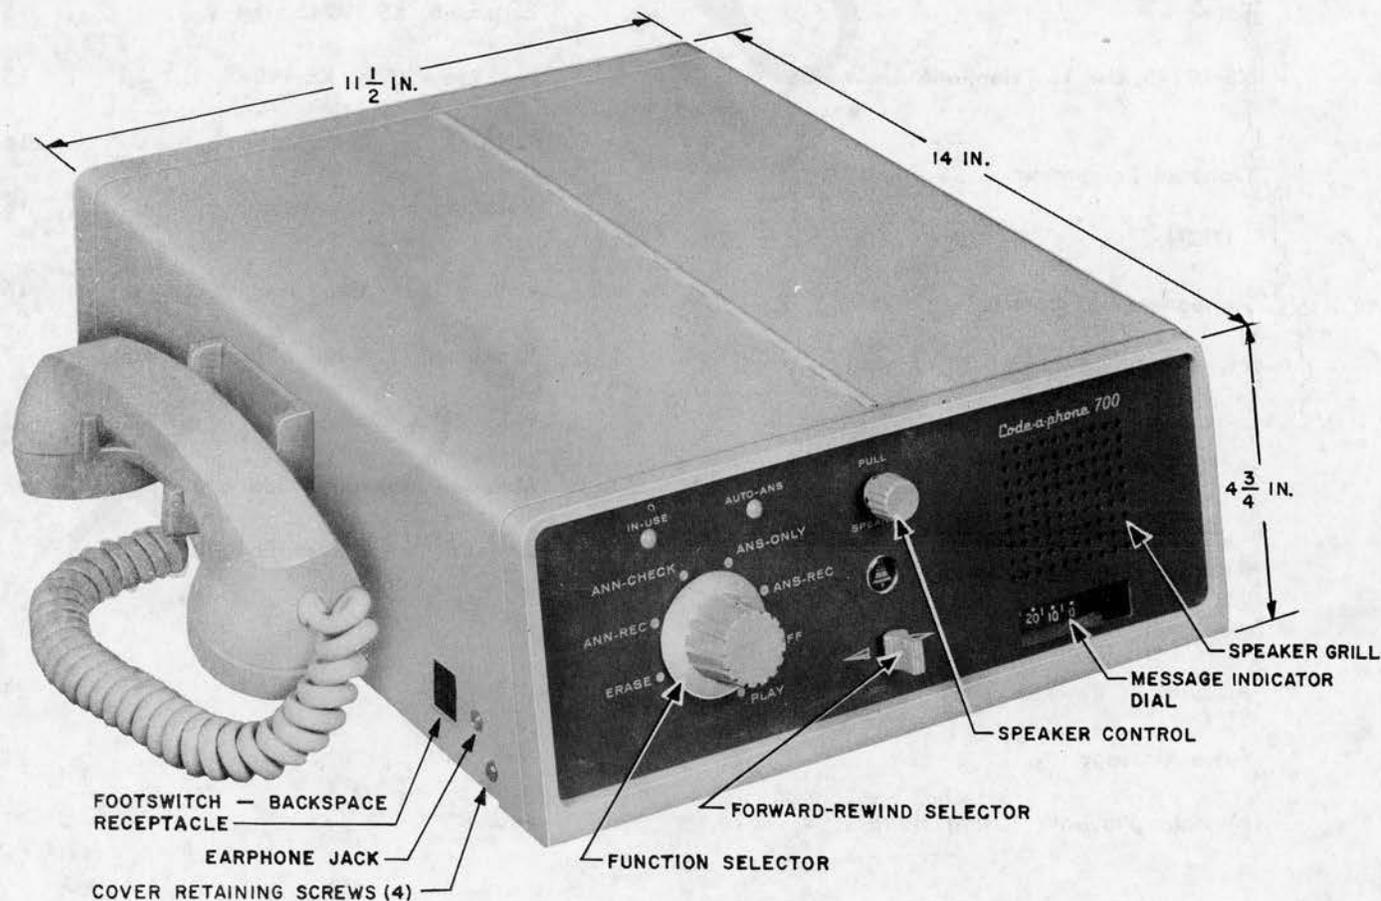
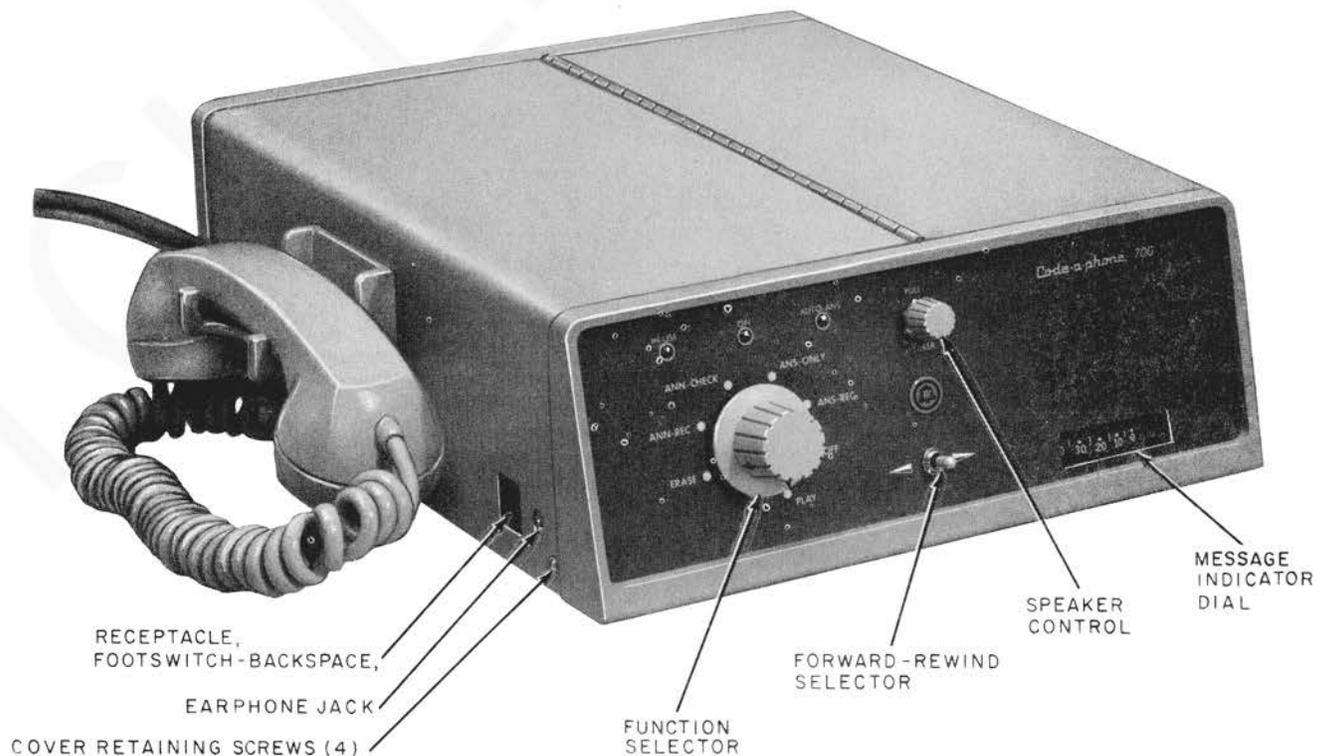

Fig. 1—KS-19245, List 1 Telephone Answering Set
Fig. 2—KS-19245, List 13 Telephone Answering Set
1.01 This section covers identification, installation, operation, and connection information on the KS-19245, List 1 (MD) (Fig. 1) and List 13 (Fig. 2) telephone answering set.
2.01 The KS-19245, Lists 1 and 13 telephone answering sets (Fig. 1 and 2) are automatic answering sets for either answer and record, or answer only service.
- Housed in a metal case. The cover has a light olive gray textured finish and the front panel has a blue-gray enamel finish. Dimensions of the Lists 1 and 13 sets are shown on Fig. 1. Weight of List 1 set is 31 pounds and List 13 set is 24 pounds.
4.01 Refer to Fig. 1 or 2.